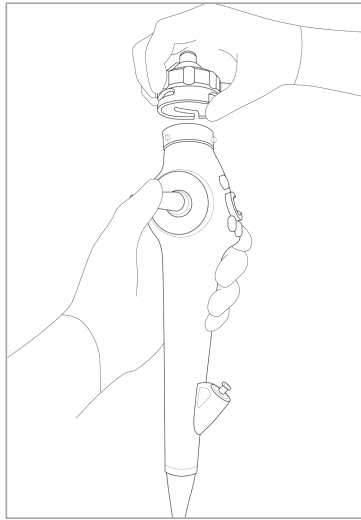

Fig. 7.11
3. Turn the waterproof cap clockwise to the end, as shown in Fig. 7.11.